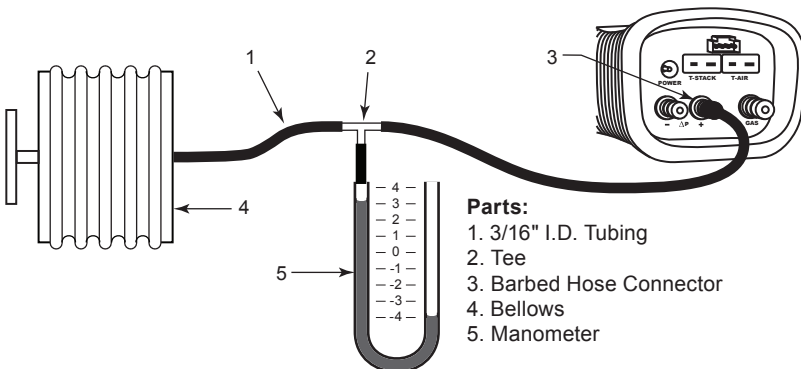

Figure 5-1. Pressure Sensor Calibration Equipment
1. Assemble the pressure sensor calibration equipment as shown in Figure 5-1, but **DO NOT** connect the analyzer to the calibration equipment at this time.